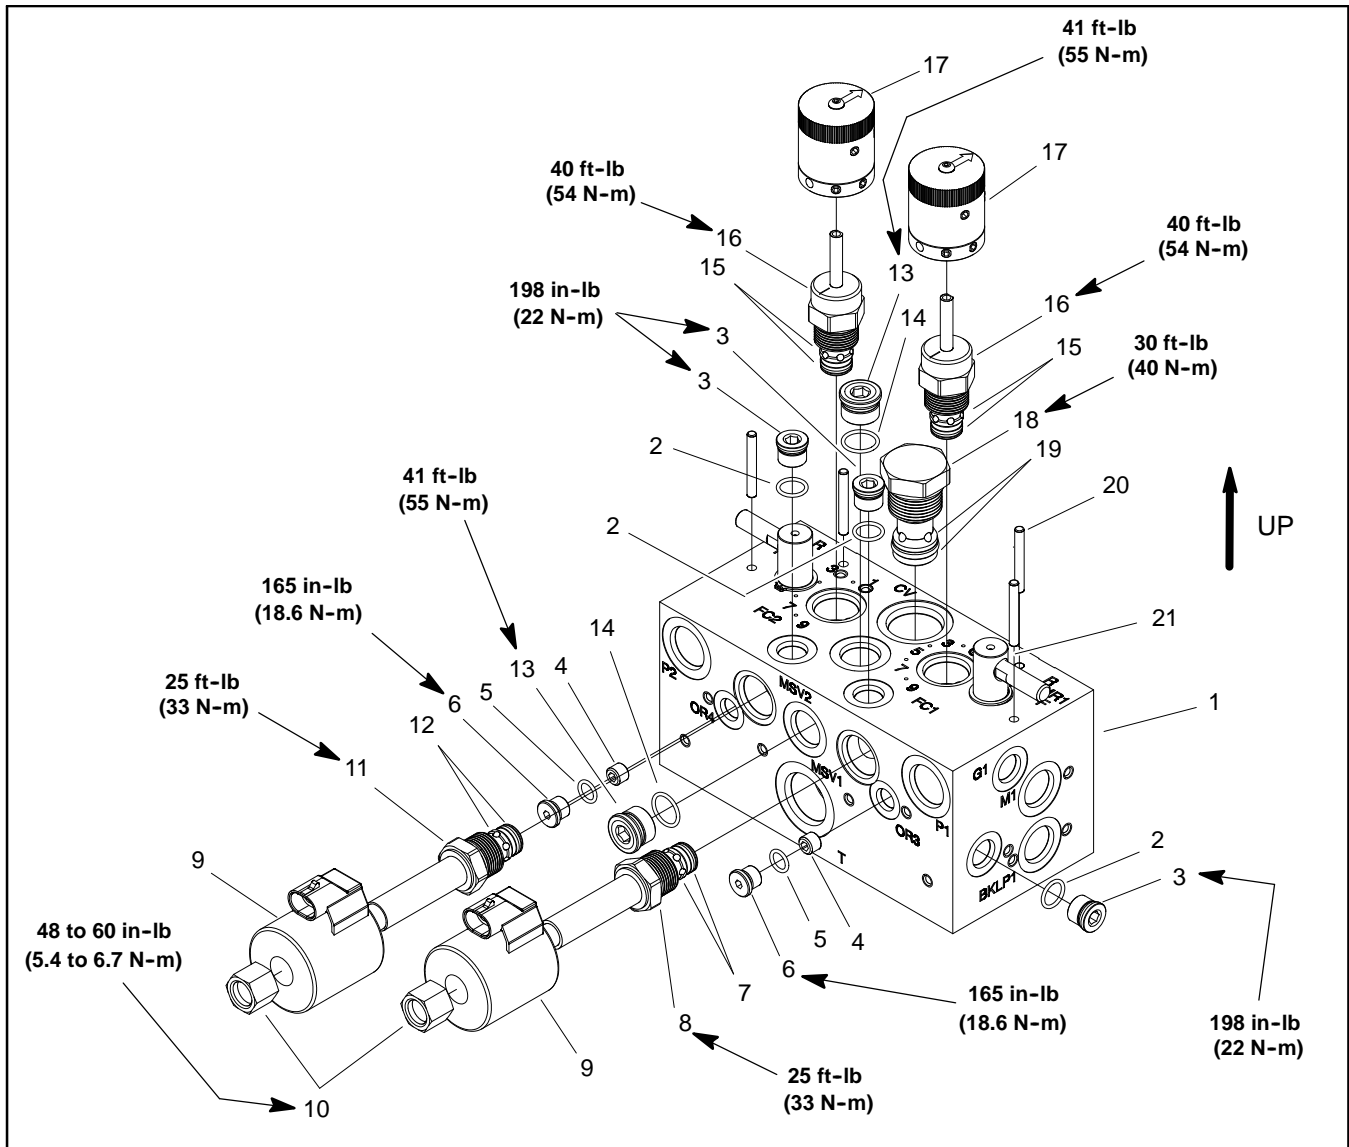

Figure 71
NOTE: The mow control manifold uses several zero leak plugs. These plugs have a tapered sealing surface on the plug head that is designed to resist vibration induced plug loosening. The zero leak plugs also have an O-ring to provide a secondary seal. If zero leak plug removal is necessary, lightly rap the plug head using a punch and hammer before using an allen wrench to remove the plug: the impact will allow plug removal with less chance of damage to the socket head of the plug. When installing plugs into the control manifold, torque plugs to the values identified in Figures 71 and 74.
C. Torque cartridge valve using a deep well socket to values identified in Figures 71 and 74.